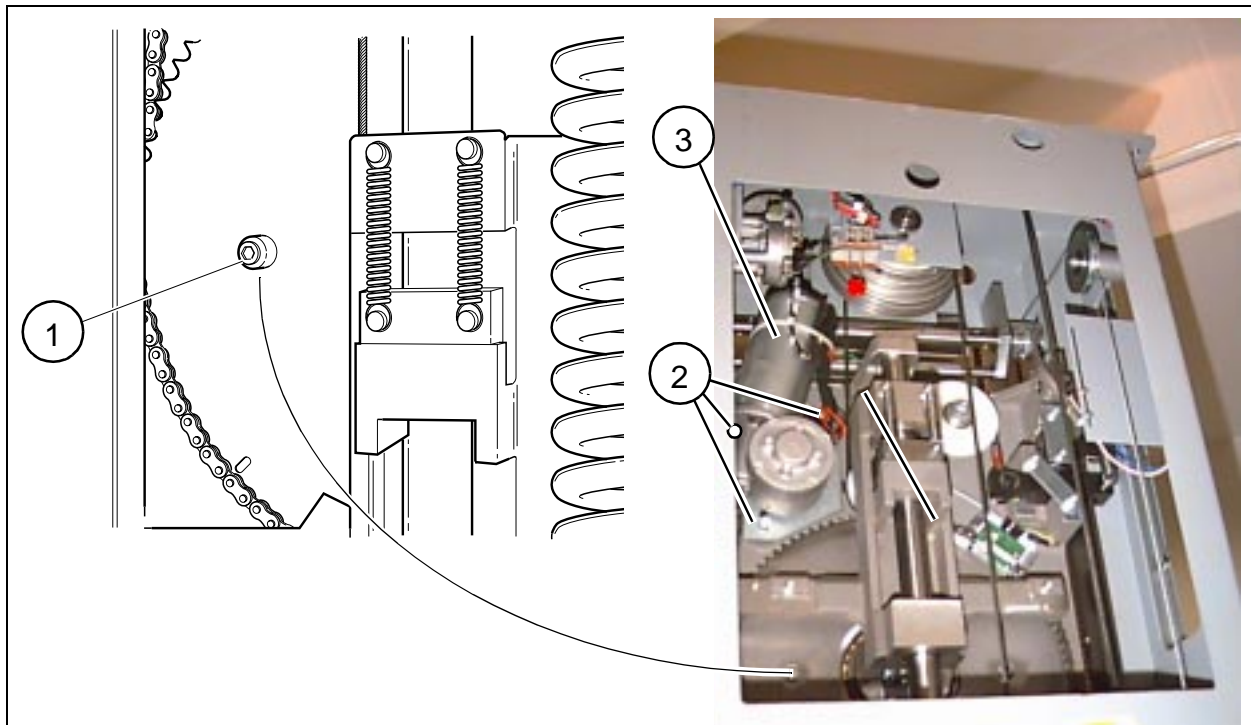

Fig. 11
For some stand versions, the swivel motor must be removed (1/Fig.11):
- Insert the transport screw for the rotation counterbalance, refer to (1/Fig. 11).
- Remove the 3 screws show in (2/Fig. 11) and remove the swivel motor (3/Fig. 11).